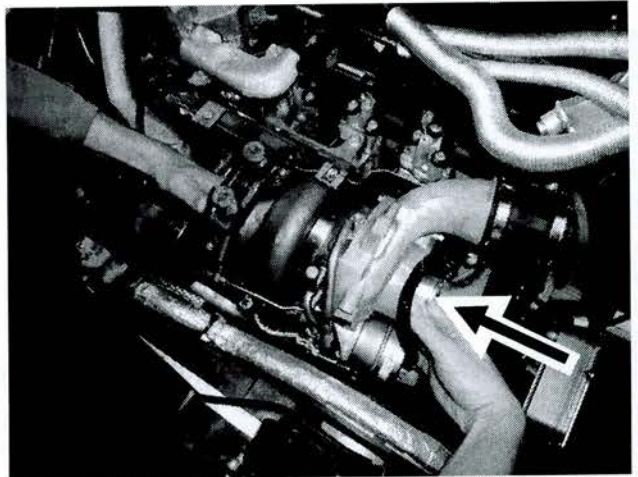

Figure 2
5. Push turbocharger shaft back and forth repeatedly by hand to relieve any residual oil pressure (Figure 2).
6. Slide shaft up to end stop in direction of turbine by exerting pressure by hand on compressor impeller shaft in direction of arrow (Figure 2).